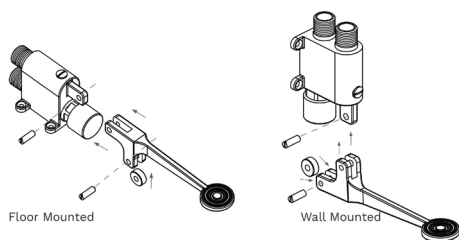

Figure 1
Ensure the brass nipple spacer (figure 1) is fitted securely facing the right side to prevent any leaking
2. Reverse the pedal lever as shown in Figure 1.